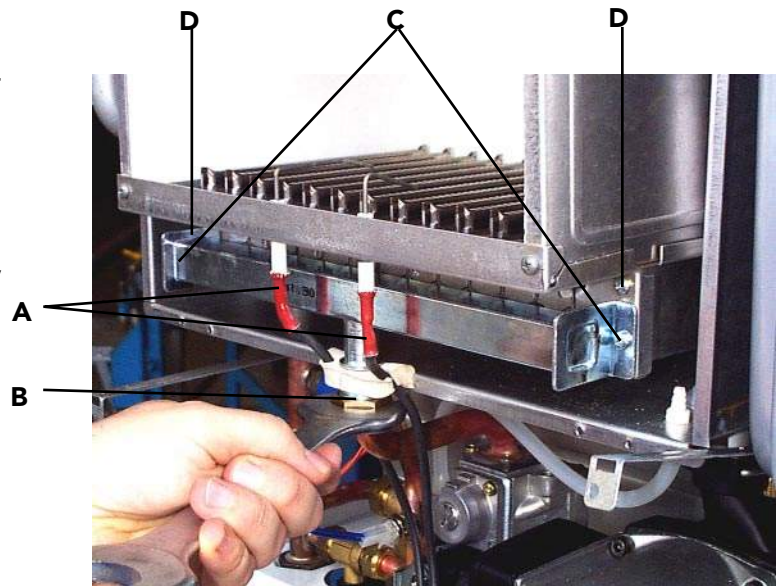

Fig. 39
7.08 Removal of burner (fig. 39)
7.09 Injectors (fig. 39)